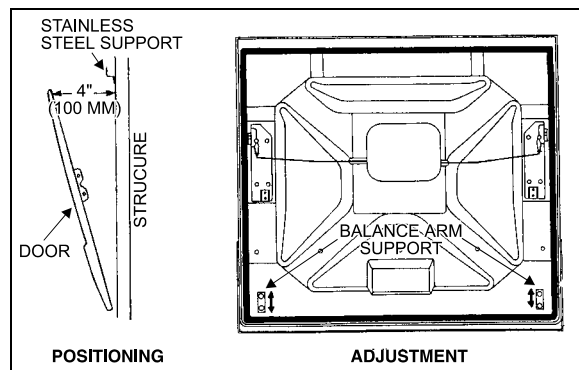

FIGURE 55: BAGGAGE COMPARTMENT DOOR 18065
2. Slightly open the door, position it to obtain a gap of 4" (100mm) between structure and door panel upper lip, maintain door in this position while an assistant completes tightening the two bolts retaining door to each balance arm support (Fig. 55).